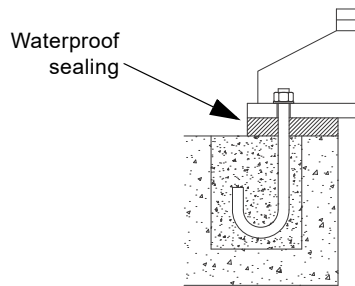

Fig. 14 Position of the waterproof sealing
1. Fit a waterproof sealing between the mounting flange and the concrete support. See fig. 14.